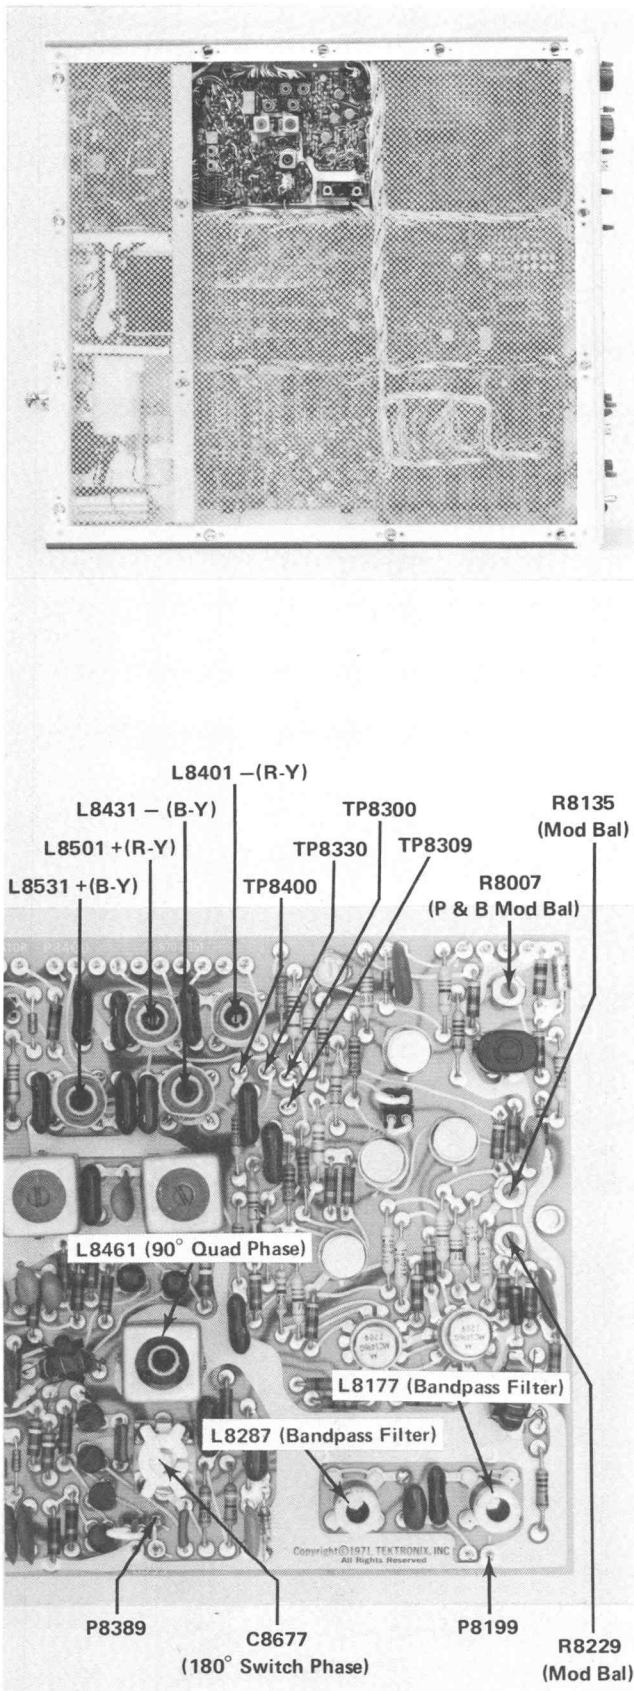

Fig. 4-10. Modulator test point, plug, and adjustment location.
CHECK—Signals at the following test points should have good transient response and similar risetimes, approximately 250 ns: TP8300, TP8309, TP8330, and TP8400 (see Fig. 4-10).
ADJUST—R8229 and R8135 (Modulator Balance), see Fig. 4-10, for minimum modulation on the blanking level.
ADJUST—R8007 (P & B Modulator Balance), see Fig. 4-10, for minimum modulation on the blanking level.
a. Set the FULL FIELD SIG switch to COLOR TEST SIGNAL. Change the connector on P8389, see Fig. 4-10, to pins 1 and 2 (alternate). Notice that there are alternate color bar vectors on the vectorscope display.
ADJUST—C8677 (180° Switcher Phase), see Fig. 4-10, for best overlay of color dots; overlay should be within 0.5°.
ADJUST—L8461 (90° Quad Phase), see Fig. 4-10, for best color bar overlay; should be within 10 mV.
ADJUST—L8287 and L8177 (Bandpass Filter), see Fig. 4-10, for a vector display with straight lines, and for a monitor display having a null at the crossover point.
a. Display the FULL FIELD TEST signal on the test oscilloscope. Connect P8389, see Fig. 4-10, between pins 1 and 2 (alternate). Set the test oscilloscope for a 10 mV/div deflection factor. Use the Vc offset control to position the tops of the cyan (2 nd) and red (5 th) color packets to the graticule center, see Fig. 4-13.